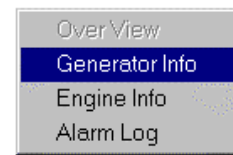

Figure 4.9 The pop-up menu.
Step 7. Switch to Generator Information view: To change views right click with your mouse in the Over View window, a pop-up menu as shown in Figure 4.9 appears. There are four items on this menu, Over View, Generator Information, Engine Information and Alarm Log. Since the Over View is active, this command is disabled in the pop-up menu.